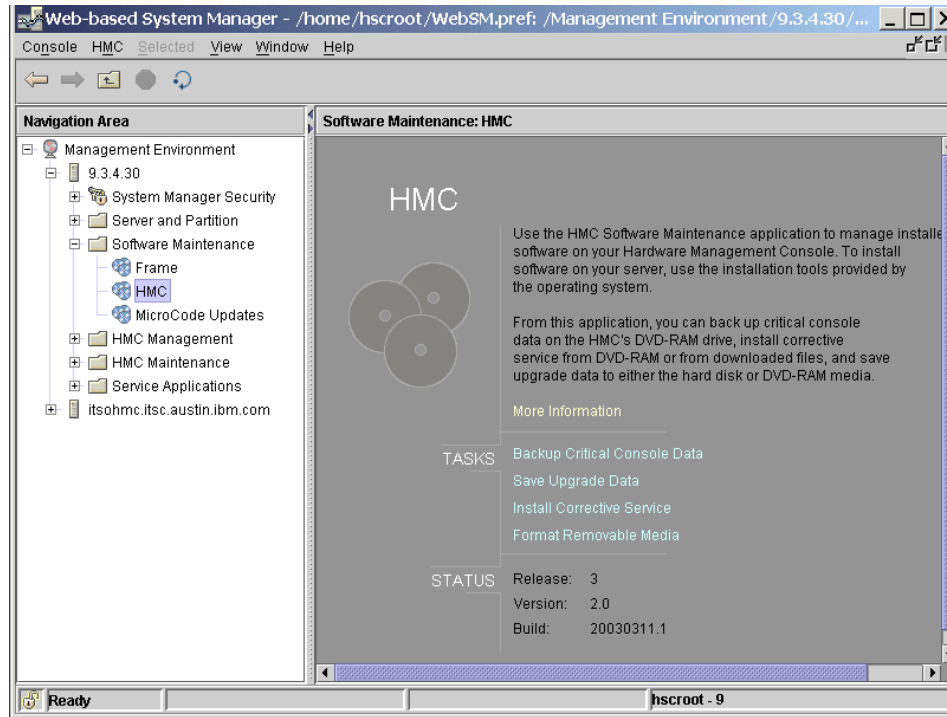

Figure 5-16 Software Maintenance: HMC (2)
6. Reboot the HMC and verify that the HMC software is upgraded correctly by selecting **Software Maintenance** -> **HMC** (see Figure 5-16).